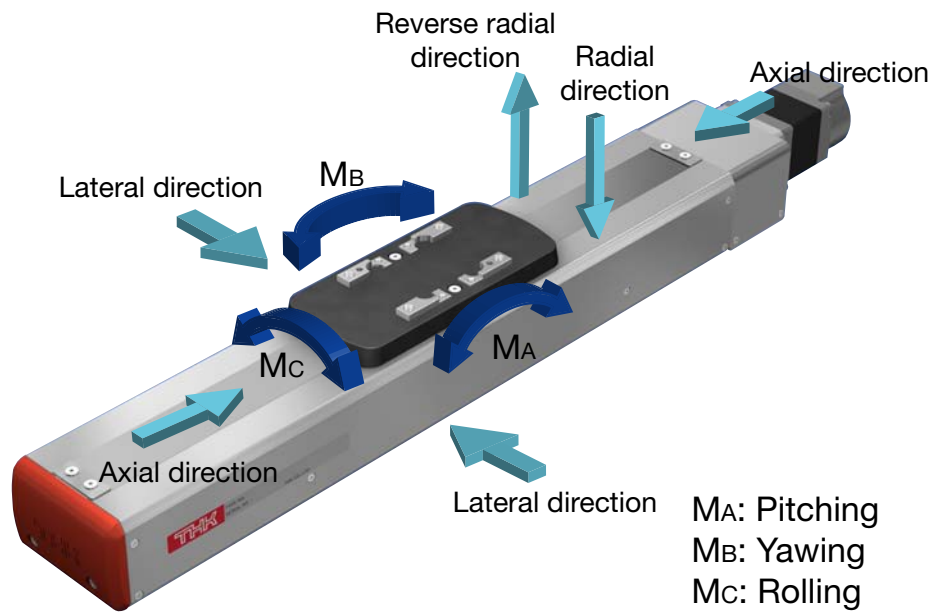

Fig. 6 Imposed load ratio and moment direction
- Static permissible moment is shown in Table 10. For the direction of the moment, see Fig. 6. (The static moment is the value when a load is applied only to one direction.)
- Static permissible load is shown in Table 11. For the direction of the load, see Fig. 6. (The static permissible load is the value when a load is applied only to one direction.)